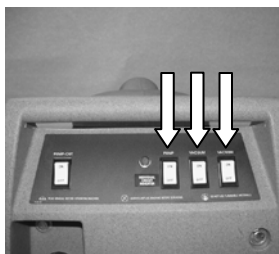

Fig. 5
1. Activate the pressure pump and both vacuum switches (Figure 5).